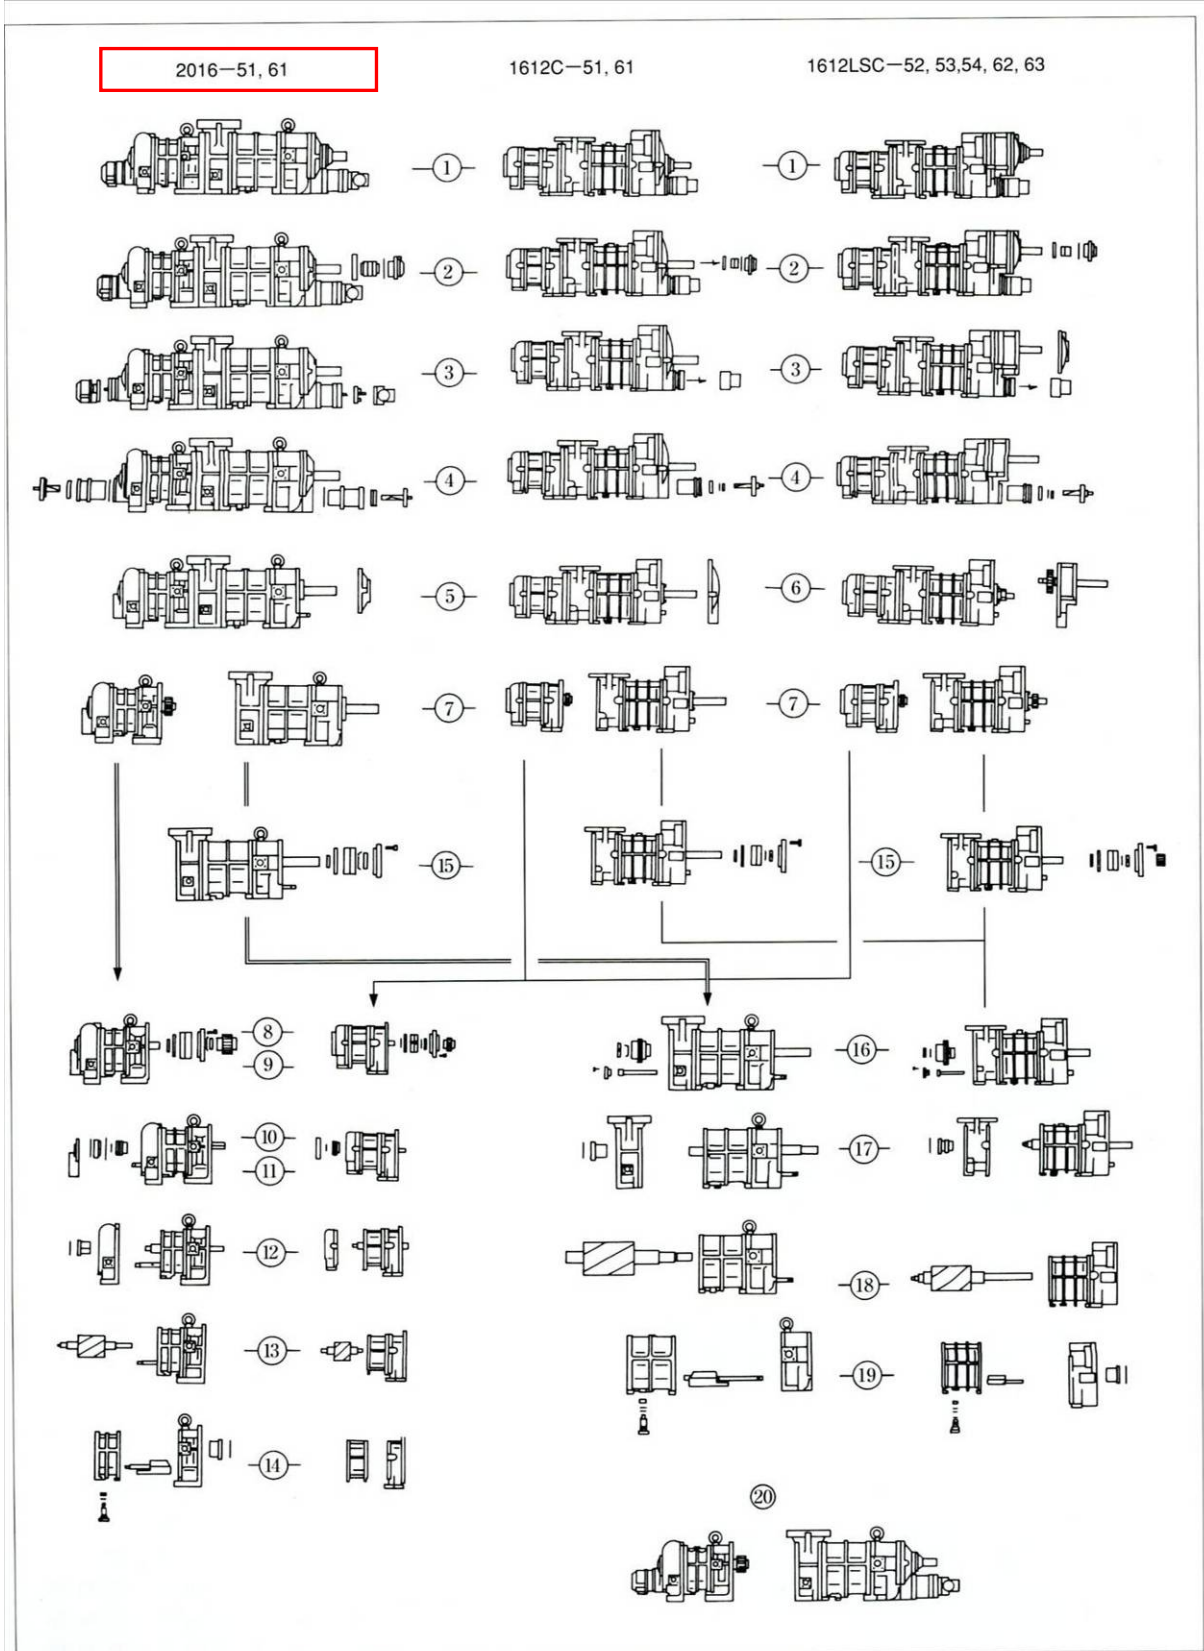

Figure 5-1 Illustrated Disassembly Sequence
If you are going to perform work step(s) other than steps ⑩ and ⑪ when performing work steps ⑤ and onwards (see "Figure 5-1 Illustrated Disassembly Sequence" in 5.5 of this chapter), **do not disassemble while lifting the compressor**, put the compressor on a table as shown in Photo 004 below, and remove approximately 8 bolts from the lower side of the flange as necessary. These bolts cannot be removed after the compressor is brought down on the work bench.
Generally compressors are disassembled in the order shown in Figure 5-1 Illustrated Disassembly Sequence but the order in the figure is just an example and the actual order may differ according to individual situations.
In addition it is often the case that the disassembly of unloader cover/unloader cylinder part from mechanical seal part is performed in the reverse order of shown in the Figure 5-1.
Shown in the steps in the Figure 5-1, ① through ⑤, ⑩ and ⑪, you can disassemble the compressor with the compressor attached on its frame.
Part to Be Disassembled	Disassembly Sequence (See Figure 5-1.)